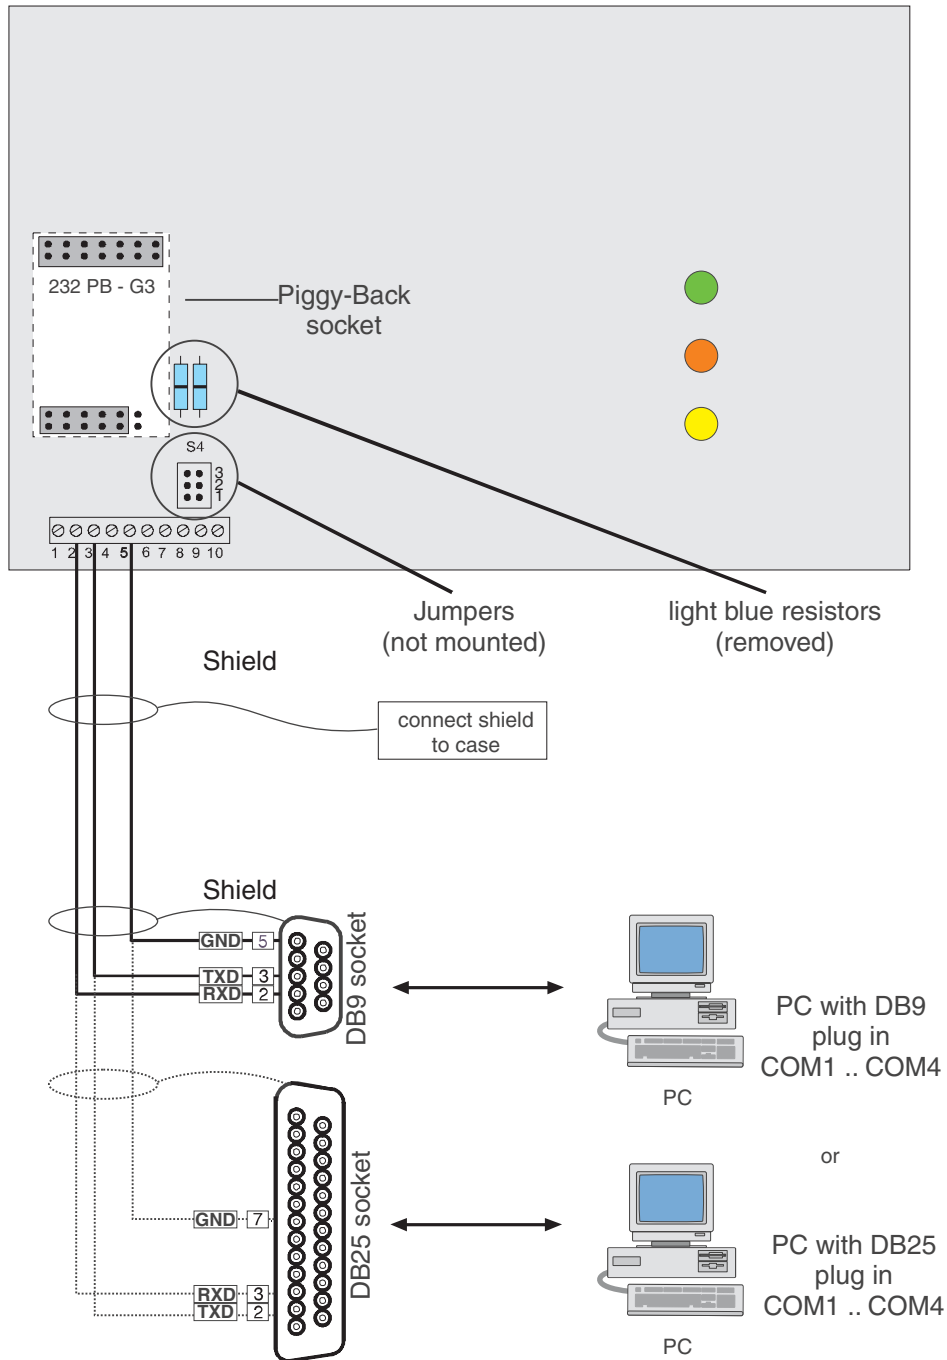
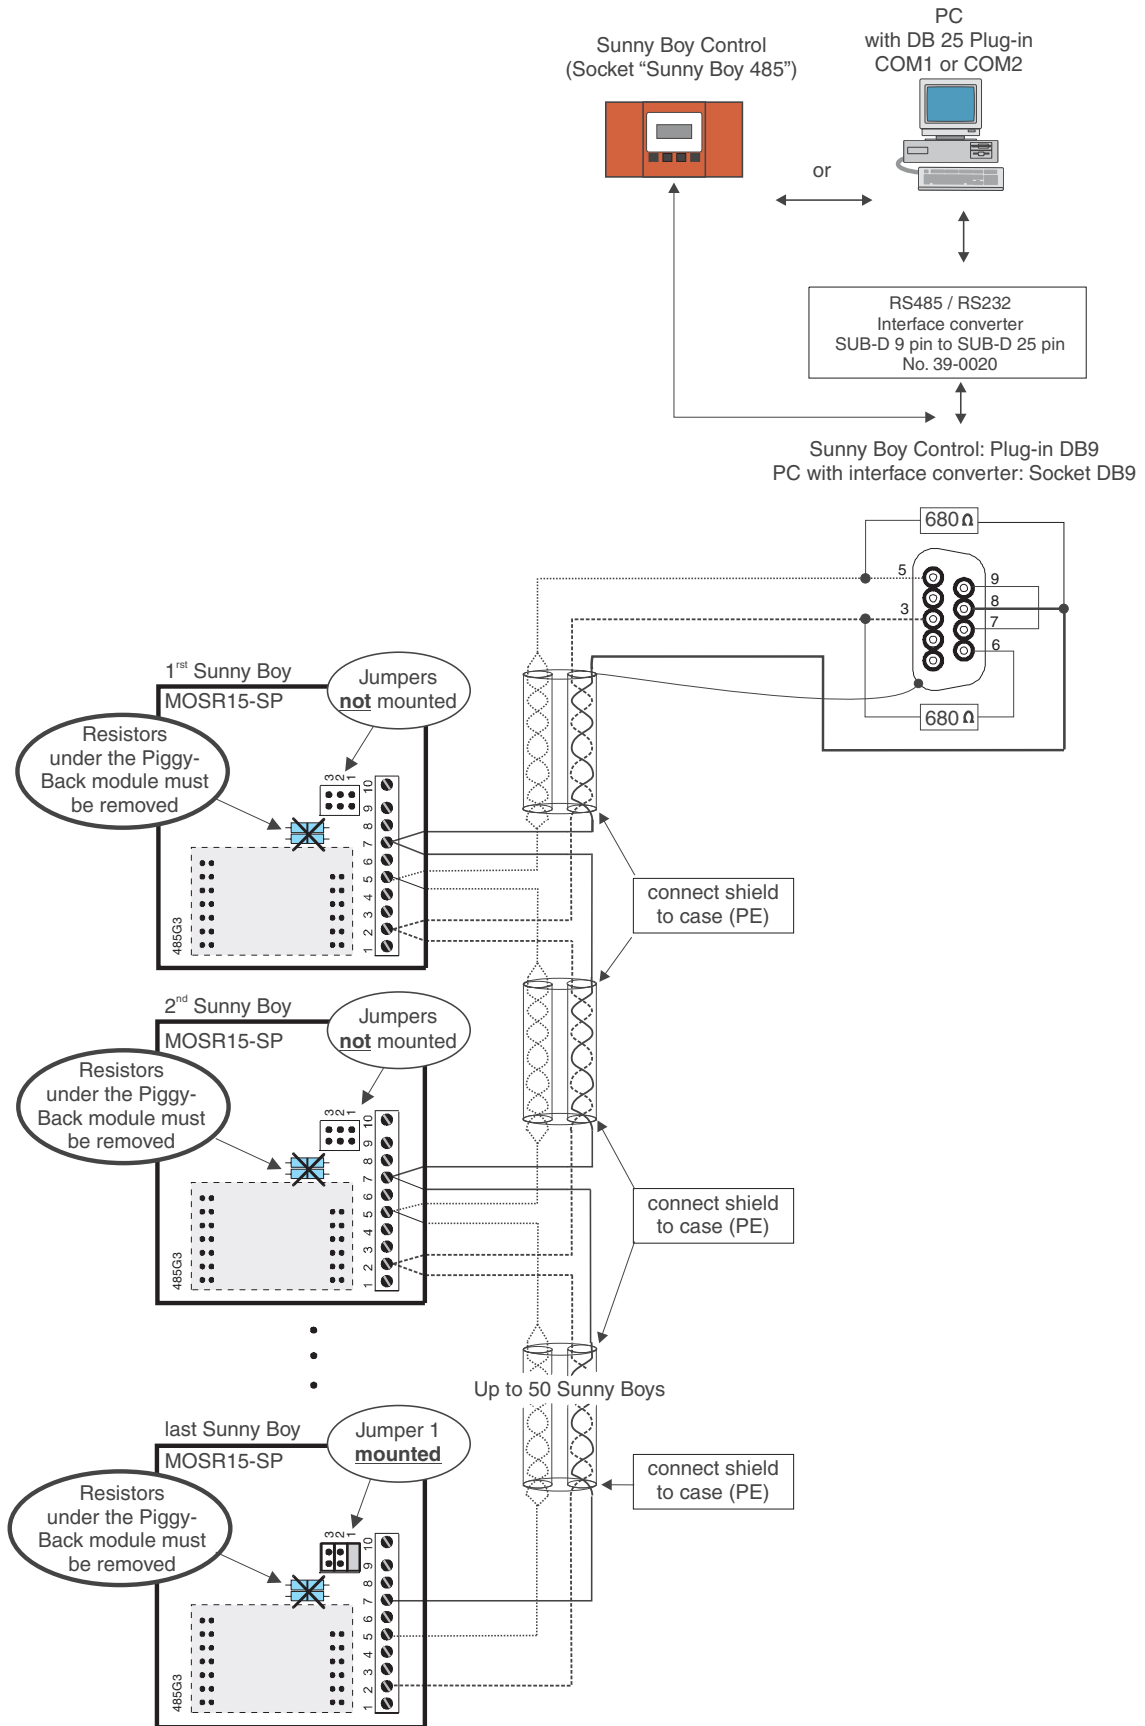

Fig. 6.3: System control board Sunny Boy with RS232 cabling
Fig. 6.6: System control board Sunny Boy with RS485 cabling
- The Powerline piggy back modem is installed (see Fig. 6.3: System control board Sunny Boy with RS232 cabling).
- The blue resistors under the piggy back have to be installed for Powerline communication (see Fig. 6.3).
- The light blue resistors (Fig. 6.3) on the system control board are removed.
- Connect RS232 connection cable LIYCY; 0.25 mm², minimum three-cable with common shield and a maximum length of 15 m. You can see the connector layout in Fig. 6.3. The shielding should be connected to protective earth (PE) on both ends at the Sunny Boy and the PC case.
- The light blue resistors (**Fig. 6.6**) on the system control board are removed.
- Two resistors of 680 Ohm each must be integrated into the DB9 connection at the beginning of the cable that is connected to the Sunny Boy Control or the PC. One is soldered from pin 3 to pin 6, the other is soldered from pin 5 to pin 8 (see Fig. 6.6). These resistors are not required for communication with the *Sunny Boy Control* if the corresponding jumpers were plugged on.
- The recommended cable for the RS485 connection is a LIYCY 2 x 0.25 mm twisted pair cable. It consists of four data lines of which two are each combined to altogether two twisted pairs. Both pairs are surrounded by a single common shield. Maximum length of the entire RS485 connection is 1200 m (4000 ft.). It is essential to connect the outer shielding to protective earth (PE) on both ends.
- Remove the light blue resistors (Fig. 6.6) on the system control board by cutting them out with a wire cutter.
- Please make sure that the light blue resistors (Fig. 6.6) are plugged onto the system control board. If not, resistors (corresponding to 0 Ohm resistors) have to be installed in there.
Connect the cables for RS232 (see Fig. 6.3) or RS485 (see Fig. 6.6). No cabling is necessary for Powerline communication. Data cables are lead outside through the free opening at the bottom of the Sunny Boy. Please insert the PG16 screws into this opening and fasten them.